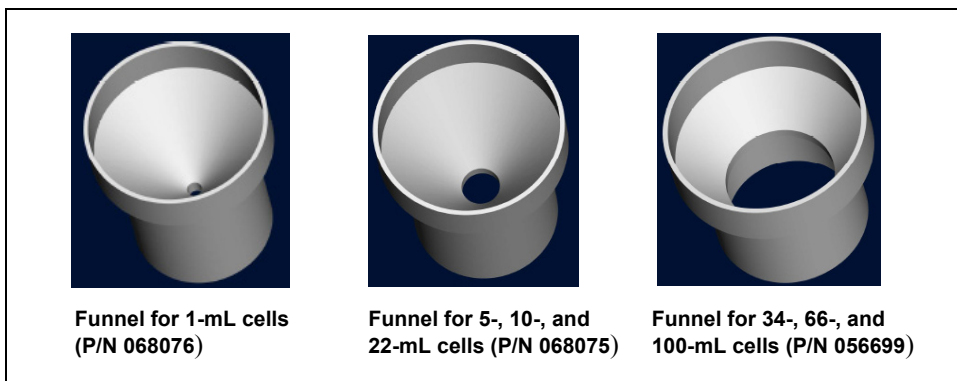

Figure 3-6. Sample Funnels
1. Use the funnel provided in the Dionex ASE 150 Startup Kit to carefully load the sample into the top of the sample cell. To accommodate different sample cell sizes, three funnels (with different inner diameters) are available (see Figure 3-6).